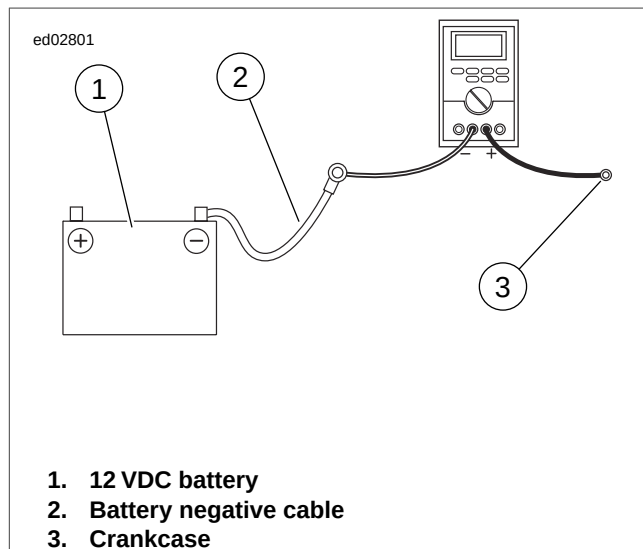

Figure 1-21. Milliampere Draw Test (Ignition turned to OFF)
- See Figure 1-21. Connect ammeter between negative battery cable and crankcase ground. With this arrangement, you will also pick up any regulator drain.